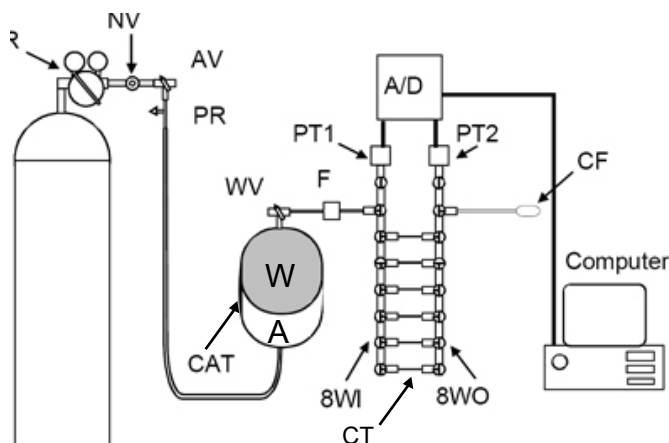
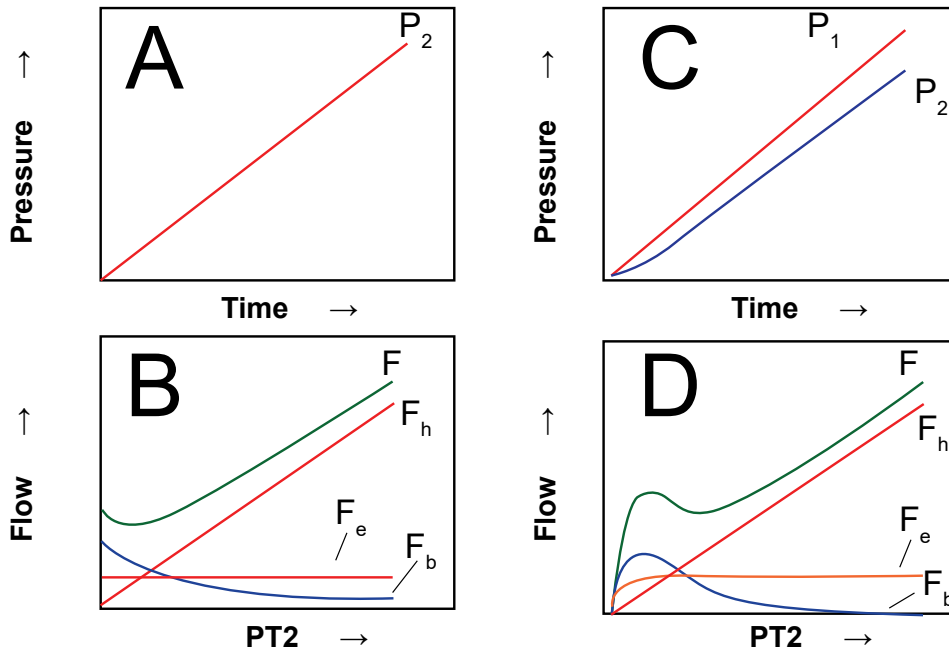

Figure 1
Figure 2
The HPFM is shown schematically in Figure 1. It is an apparatus designed to perfuse water into an object while rapidly changing the delivery pressure and simultaneously measuring flow. This is referred to as a transient conductance measurement. The slope of flow plotted versus pressure equals the hydraulic conductance of the object. The object can be an excised shoot or excised root system or capillary tube (for test purposes). The HPFM may also measure quasi-steady state conductance, i.e., under conditions where flow and applied pressure are approximately constant with time.
Pressurized water flows from the CAT to the 8-Way Inlet manifold (8WI) through a 9 mm Inside Diameter (ID) nylon-reinforced Tygon tubing. At a distance of 0.3 m from the CAT the water passes through a 0.1 micron water filter, then the diameter of the tubing is reduced to 3 mm Outside Diameter (OD) plastic tube; the plastic tubing is connected to the input side of the 8WI. The 8WI is shown schematically in Figure 1. The 8WI is an 8-Way HPLC valve of octagonal geometry with 8-tubes emerging from a common point in the center and each tube terminated by a valve.
During normal operation of the HPFM, the inlet pressure P_1 increases linearly with time, and after a short time delay this causes P_2 to increase linearly with time to make dP_2/dt equal to a constant. This permits easier interpretation of results because it makes the elastic contribution a constant offset to F_h . The contribution of the three terms in Equation (12) is illustrated in Figure 2 for the case where P_2 increases linearly with time from time = 0 (Figure 2 (A)). The component flows (F_h , F_e , and F_b) and total flows are shown in Figure 2 (B).
It is not possible, in practice, to make P2 increase linearly with time from time 0. This is because an extra conductance equal to the conductance of the capillary tubes of the HPFM (KCT) is interposed between the pressure transducers that measure P1 and P2 (see Figure 1). When the full set of equations is derived (not shown) a short time lag is predicted before P2 increases linearly with time (see Figure 2 (C)). The resulting component and total flows are shown in Figure 2 (D).